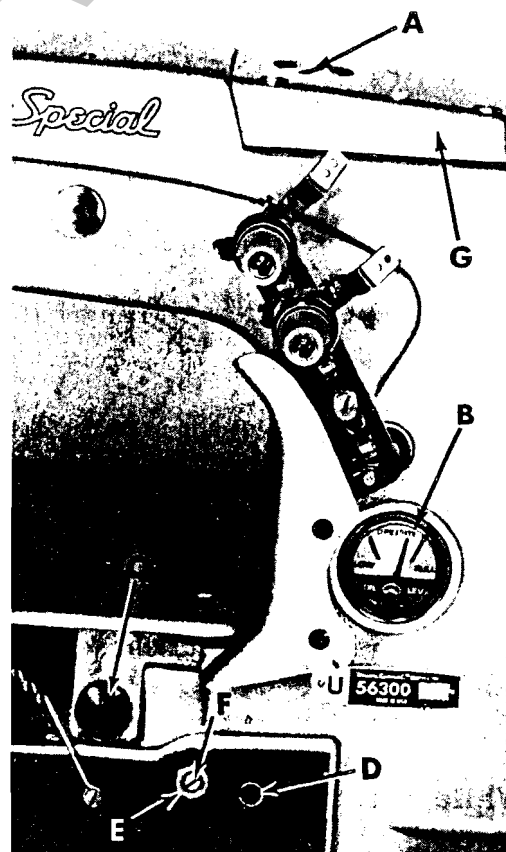

Fig. 2
CAUTION! Oil has been drained from the main reservoir before shipment, so the reservoir must be filled to the proper level as indicated on oil gauge (A, Fig. 1 or B, Fig. 2) before beginning to operate. Run machine slowly for several minutes to distribute the oil to the various parts. Full speed operation can then be expected without damage.
Use a straight mineral oil of a Saybolt viscosity of 90 to 125 seconds at 100^o Fahrenheit in the main reservoir. This is equivalent to Union Special specification No. 175. Fill main reservoir at plug screw in upper crank chamber cover (A, Fig. 2) and check oil level at gauge (B). Oil is at maximum safe operating level when needle is to the black line, located to the right of "OPERATE" zone, marked "FULL". Oil should be added when needle is to the black line, located to the left of "OPERATE" zone, marked "LOW". See paragraph under "Changing Stitch Length" in Catalog No. 129 M, Fourth Edition, for repacking feed rocker bearings.
For machines in operation check the oil for lint deposits at reasonable intervals. If dirty, change the oil. An oil change is recommended every 2000 operating hours. Oil may be drained from main reservoir by removing plug screw (C, Fig. 2) located below the cloth plate at front of the machine, or by removing the lower crank chamber cover, located at the back of machine.
2. Remove the oil reservoir plug screw (C, Fig. 2) and tip machine forward to drain oil from the reservoir.
5. Fill main reservoir to a level even with the bottom contour of the knee press shaft bushing (D, Fig. 2).
6. Loosen lock nut (E) on calibrating screw (F), and turn the screw to the left or right until the gauge needle rests on the black line, located to the left of "OPERATE" zone, marked "LOW".
7. Tighten lock nut (E) and replace plug screw (C) and lower crank chamber cover.
Draw the looper and needle threads into the machine and start operating on a piece of fabric. Refer to threading diagram (Fig. 2) for the threading of these machines.